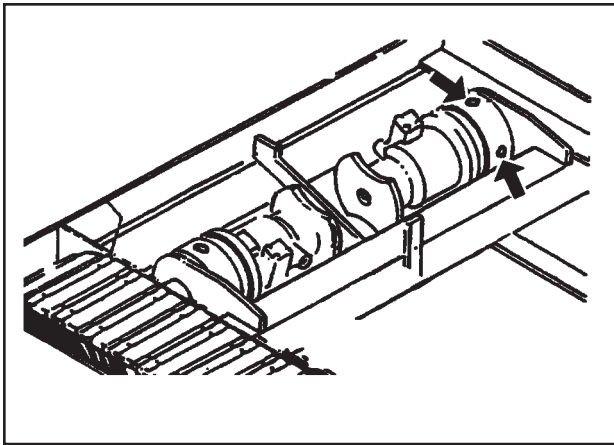

FIGURE 4-9. TORQUE HUB LUBRICATION
3. Replace both plugs and repeat process on other torque hub (see Figure 4-9).